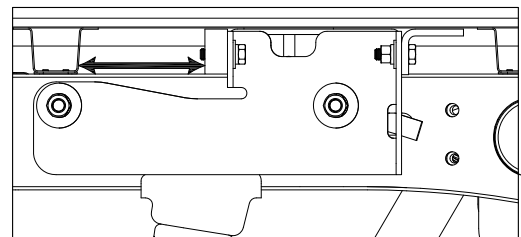

FIGURE D1: Passenger side of truck frame inside the wheel well.
2. **Square the hitch.** With a tape measure, check the distance between the Turnoverball hitch and the nearest bed crossmember. The distance between the hitch and the crossmember should be consistent on the passenger side and the driver side of the hitch, see figure D1. Adjust hitch until the hitch and the bed crossmember are the same from side to side.